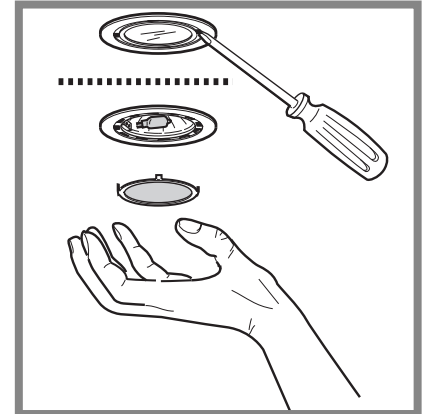

Fig. 5
- Remove the cover of the recessed lamp by using a small screwdriver to lever it out (Fig. 5).